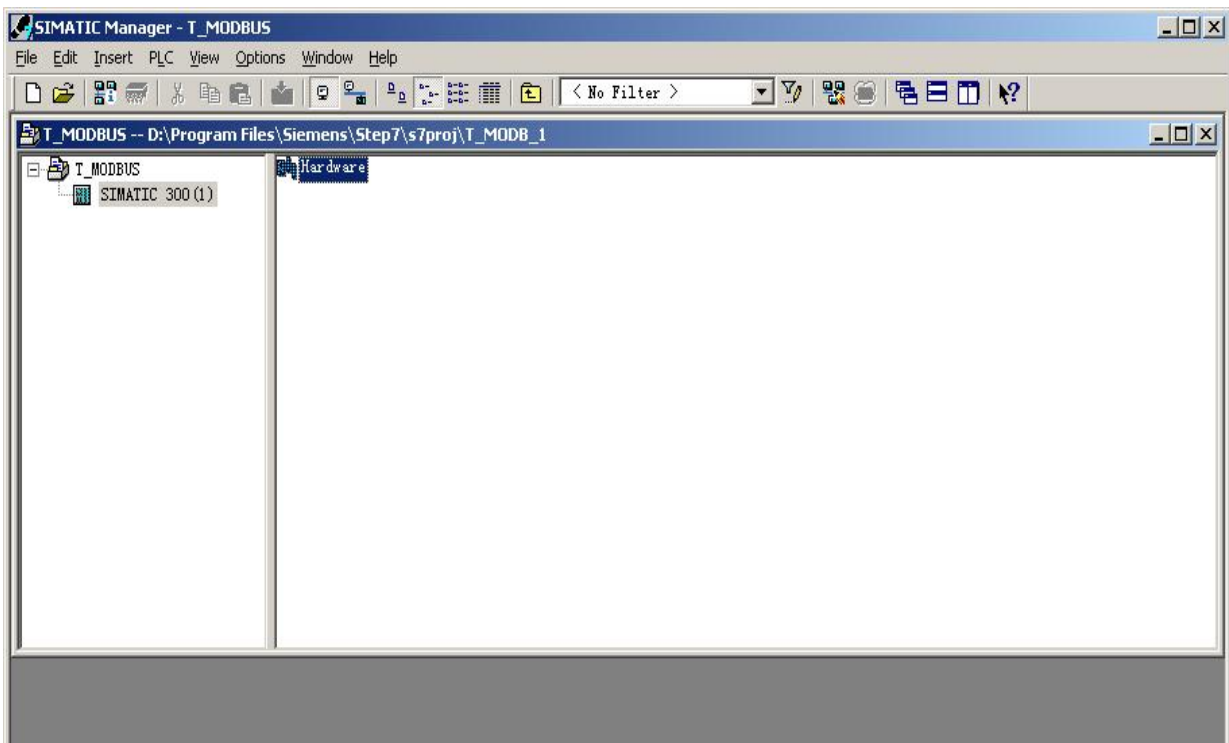

Figure 4
Open SIMATIC 300(1) and then double-click Hardware. Figure 4: